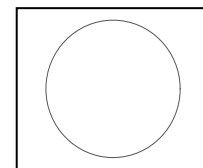

Figure 1
2.5 If you have a shaft as in **Figure 1**, you **Must File Two (2) Flat Spots** for the **Set Screws** to **Set On** or the **Set Screws Will Damage the Shaft** and you will not be able to remove the **R128 3 Jaw Chuck Left Hand**. Slide the **R128 3 Jaw Chuck Left Hand** onto the shaft and gently tighten the **Set Screws** to make marks on the shaft. File flats on the shaft where the **Set Screws** made the marks.